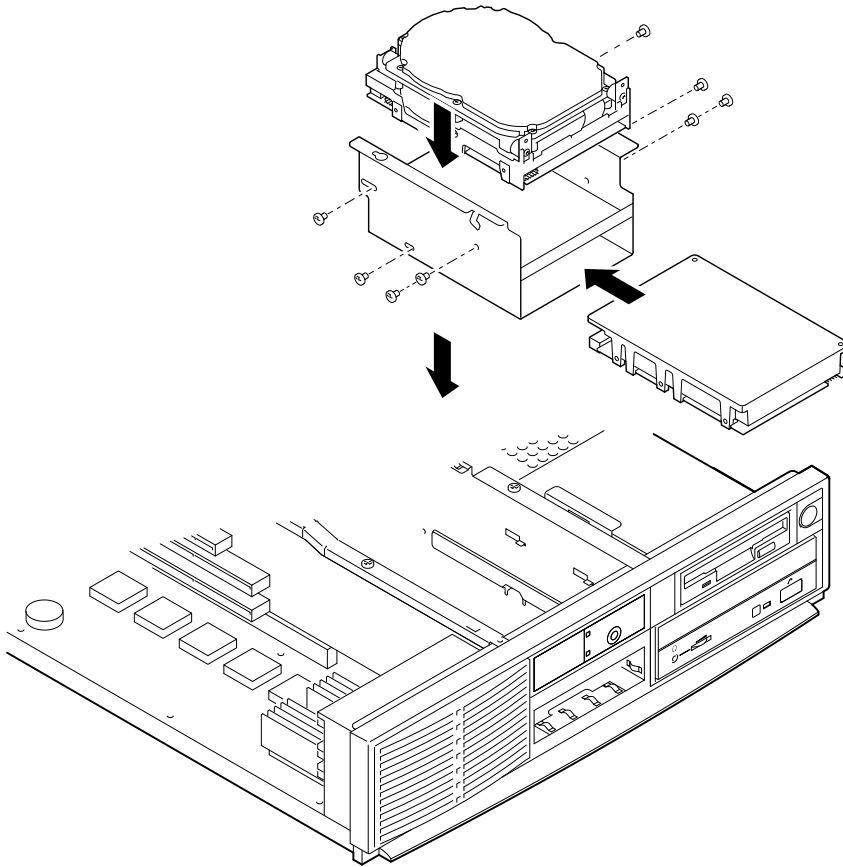

Figure 3-14. Installing Drives in Bracket
4. Orient the bracket as Figure 3-14 shows. Position the drive so that cable connections face to the rear of the system. Select the bracket mounting holes that match the threaded holes in the drive. Mount the drive in the bracket, securing it with the four screws provided with the drive.